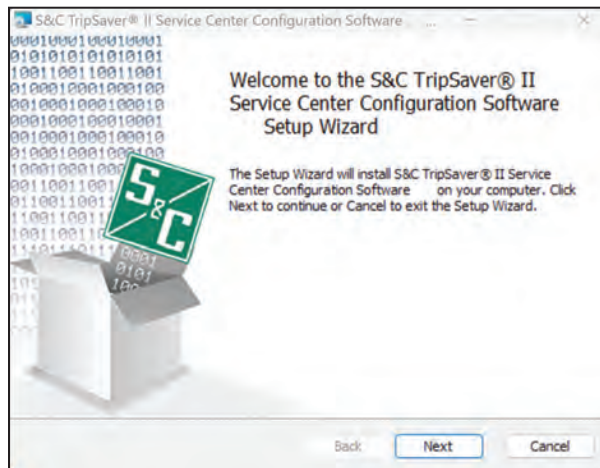

Figure 4. The SCC installation setup wizard.
- STEP 2.** After clicking on the **Install** button, wait for the installation to finish. The installer will automatically install the correct .NET framework onto the computer if .NET is missing. When .NET is successfully installed, the setup wizard for the S&C TripSaver II Service Center Configuration Software will open. See Figure 4.